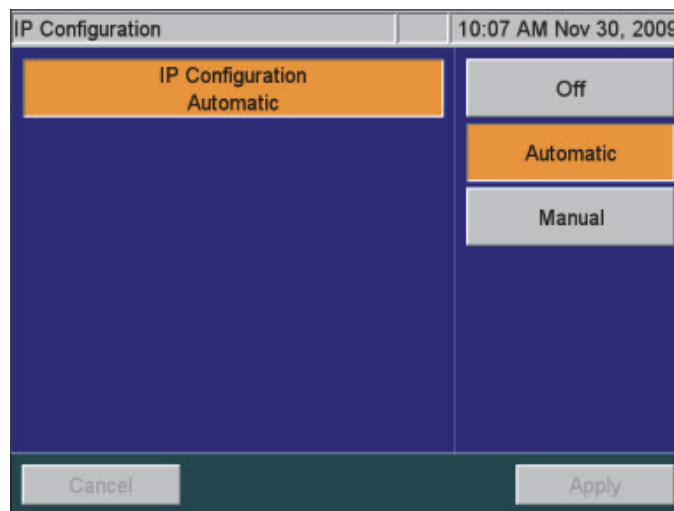

Figure 37: IP Configuration Screen
- **Type A** System Controller Board shown in Figure 37: Controller Board Types — This system controller board communicates with HP printer drive package 1.6.10.
- **Type B** System Controller Board shown in Figure 37: Controller Board Types — This system controller board communicates with HP printer driver package 3.16.11.